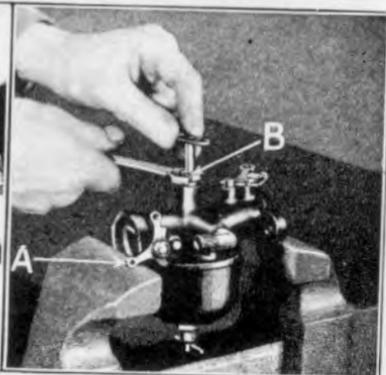

Fig. 427
- 874 Lift out carburetor and place in vise, holding it at throttle and intake flange. In order to hold carburetor in this manner, it is necessary to pull intake lever back (See "A" Fig. 427). This prevents shearing the pin in the intake plate.
- 875 Remove spray needle by running out spray needle clamp nut "B" (Fig. 427).